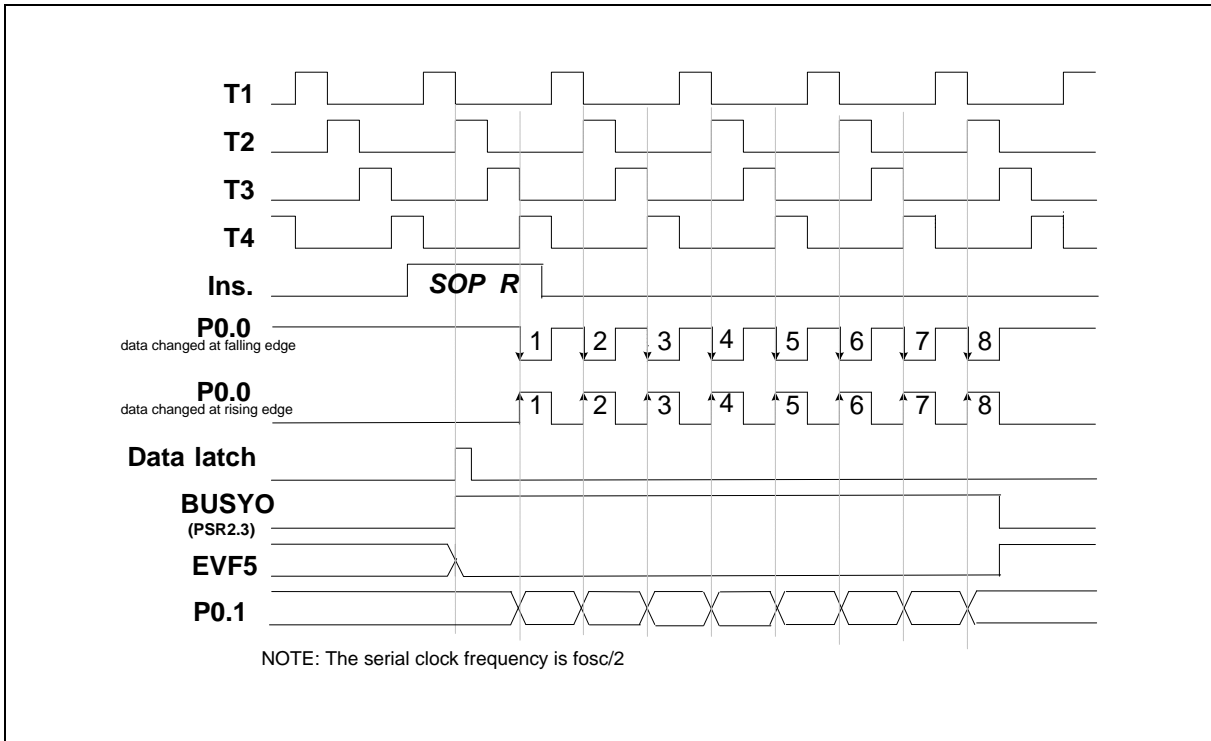

Figure 5-13 Timing of the Serial Output Function (SOP R)
(2) When the **SOP R** instruction is executed, the data will be loaded to the serial output buffer (SOB) from ACC and the RAM, the low nibble data of SOB is from ACC register and the high nibble data is from RAM, and bit 3 of port status register 2(PSR2) will be set to "1" (BUSYO = 1). Then the P0.0 pin will send out 8 clocks or accept 8 clocks from external device and the data in SOB will be sent out at the rising or falling edge of the P0.1 pin. After the 8 clocks have been sent, BUSYO will be reset to "0" and EVF.5 will be set to "1." At this time, if IEF.5 has been set (IEF.5 = 1), an interrupt is executed; if HEF.5 has been set (HEF.5 = 1), the hold state is terminated. Users can check the status of PSR2.3 (BUSYO) to know whether the serial output process is completed or not. If a serial output process is not completed, but the SOP R instruction is executed again, the data will be lost. The timing is shown in Figure 5-13.